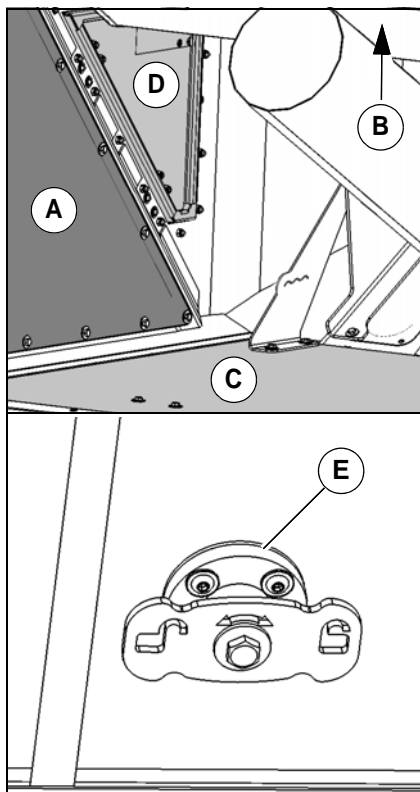

Fig. 164:
2. Half raise the dirt hopper and open the lock **Fig. 164-E** of the sump flap (hopper floor). Then bring the dirt hopper into its end position.
3. Clean the dirt hopper from the inside with a water hose or a high-pressure cleaner. Pay special attention to the lateral filter sieve **Fig. 164-A** and the filter sieve **Fig. 164-B** in the lid.
The dirt hopper can also be cleaned through the side doors **Fig. 164-D**. The suction fan of the dirt hopper must be switched off to open the doors!
4. When the dirt hopper is raised, the valve of the settling tank **Fig. 164-C** opens. Clean the settling tank and flush trough the circulating water system with water.